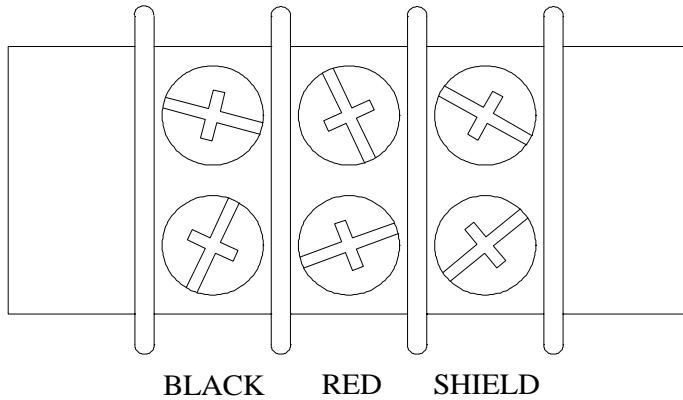

Figure 15 T1 WIRING DIAGRAM
3. Connect the control cable to terminal strip T1 (located to the left of the test jack S11) according to the diagram in figure 15.